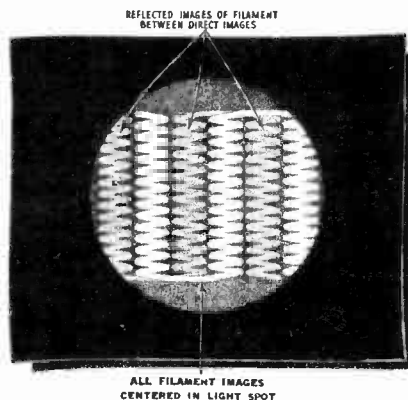

Fig. 8 - CORRECT PROJECTOR
- (d) The filament image should be such that the reflected image of the filaments is between the actual filament images. See Figure 8. Also the light should be evenly distributed throughout the entire opening. If these conditions do not exist, then adjustment of the several reflector adjustment screws or projection lamp socket should be made until the desired effect is obtained.